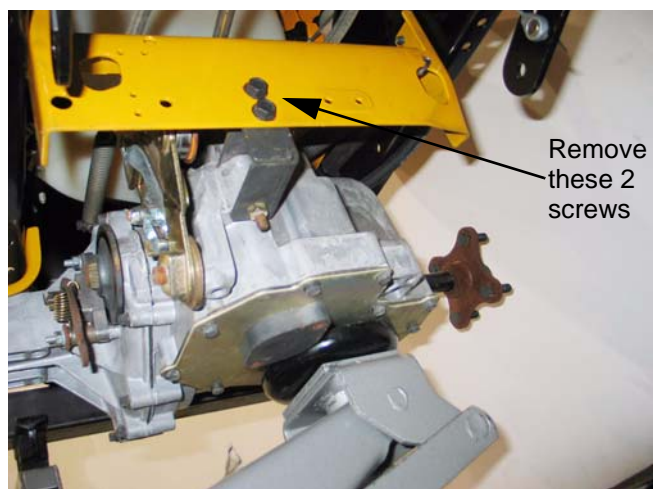

Figure 34.19
34.19. Remove the two screws that connect the transaxle to the stabilizer bracket using a 9/16" wrench. See Figure 34.19.